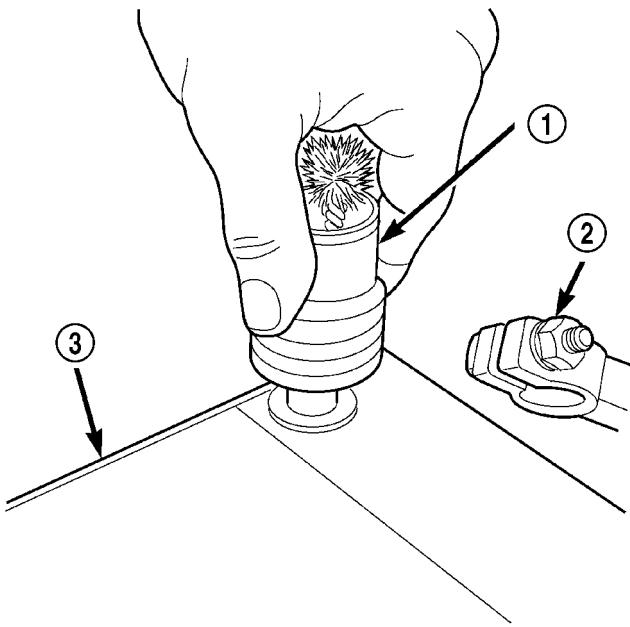

Fig. 3 Clean Battery Terminal Post - Typical
(5) Clean any corrosion from the battery terminal posts with a wire brush or a post and terminal cleaner, and a sodium bicarbonate (baking soda) and warm water cleaning solution (Fig. 3).